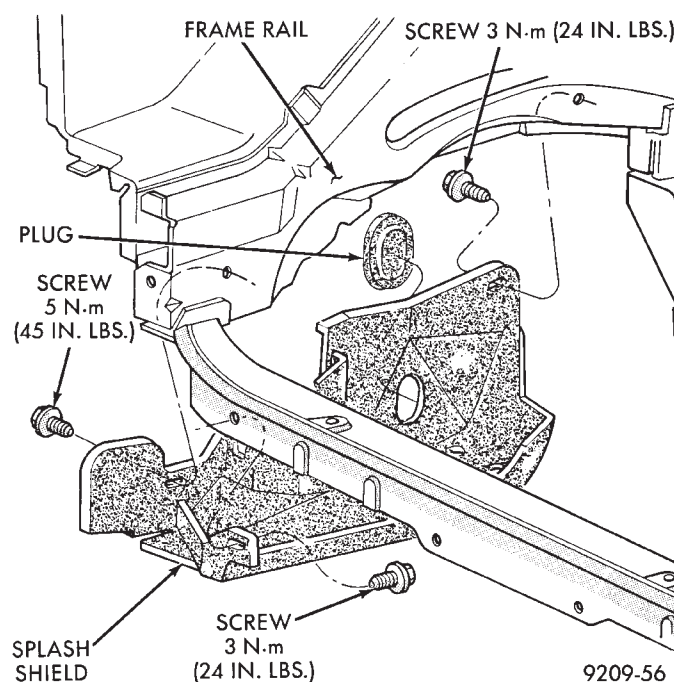

Fig. 5 Right Inner Splash Shield
(13) Automatic Transmission
(14) Attach C clamp on front bottom of torque converter housing to prevent torque converter from coming out.
(15) Install transmission holding fixture.
(16) Remove right inner splash shield (Fig. 5).